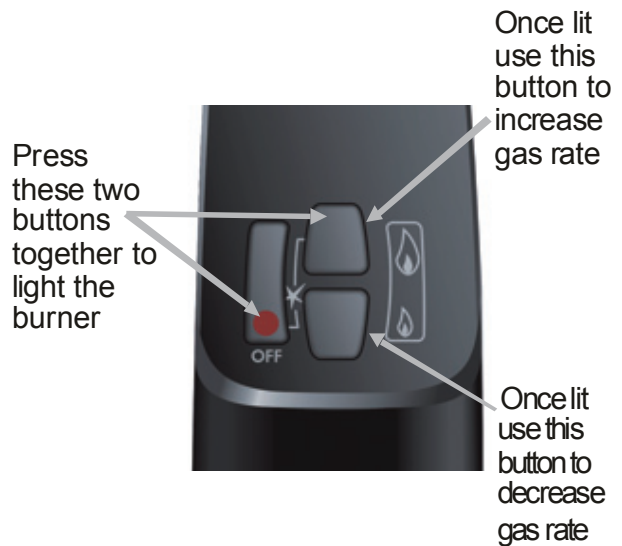

Figure 9 – Total Control Handset
2. Simultaneously press and hold the ● (red circle) and 🔥 (large flame) buttons until a short acoustic signal confirms the start sequence has begun, then release the buttons (see **Figure 9**).
4. To adjust the gas rate to desired setting press the 🔥 (large flame) to increase the flame height or 🔥 (small flame) to decrease the flame height on the handset (see **Figure 9**).